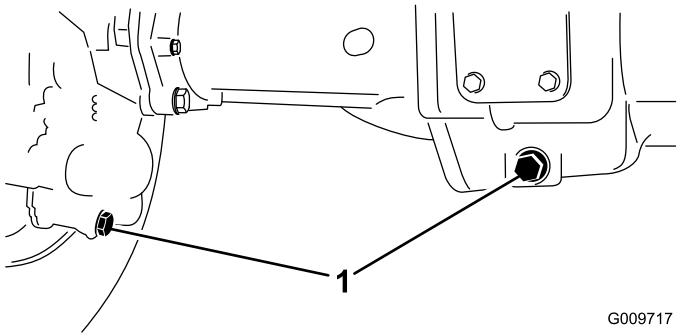

Figure 73
2. Clean the area around the 3 drain plugs—1 on each end and 1 in the center (Figure 73).